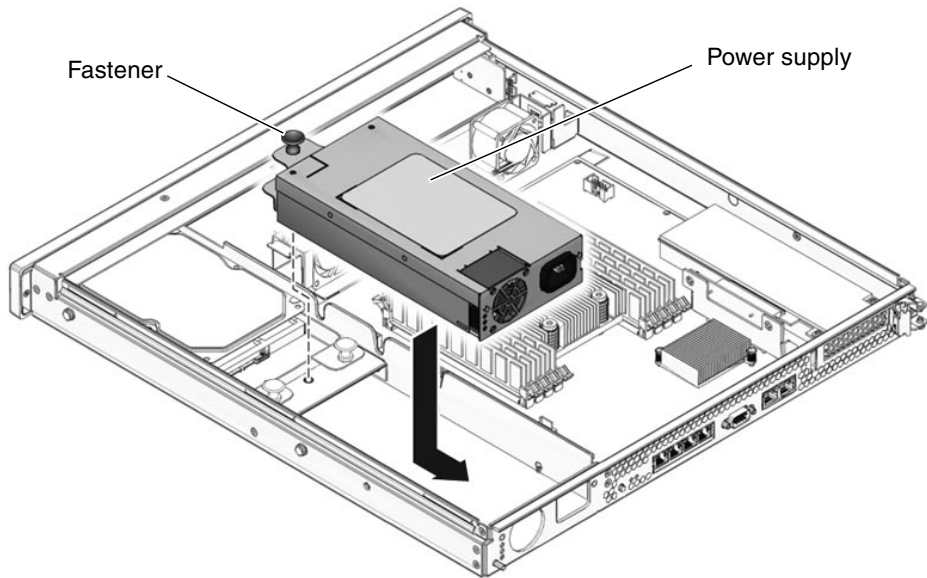

FIGURE 5-5 Installing the Power Supply
3. **Push the fastener down on the front of the power supply to lock it into place in the chassis (FIGURE 5-5).**